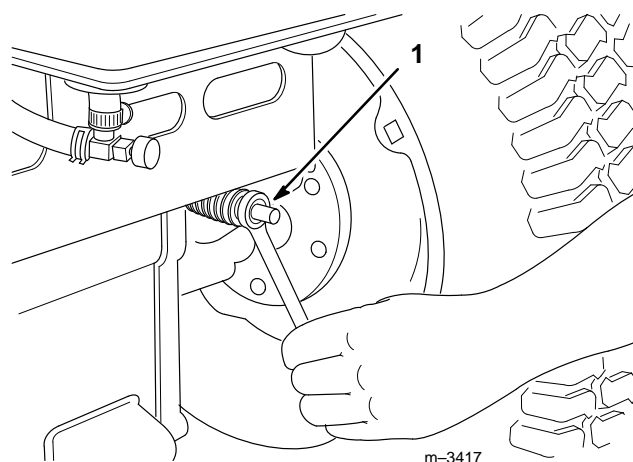

Figure 41
The brake adjustment is at the rear of the tractor (Fig. 41). If the parking brake does not hold securely, an adjustment is required.
4. Turn the brake adjustment nut (Fig. 41) until there is 2" (51 mm) of free travel.